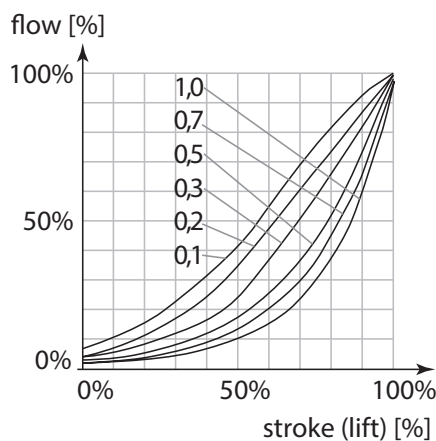

Fig 2
1. Logarithmic/Equal percentage control valve characteristic (Fig 2)